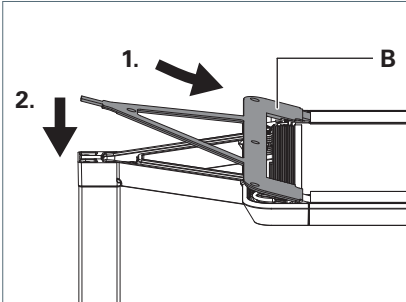

Fig. 8: Fitting the cover.
- Set the cover **B** with the three tabs on the underside of the cover into the recesses on the luminaire head and press the cover firmly, see Fig. 8.